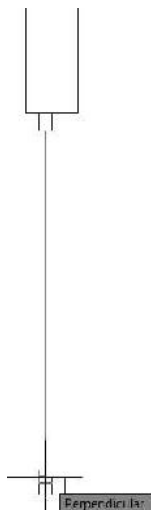

FIGURE 4.70: Using the Perpendicular osnap to set the endpoint of the line
- When you get near the horizontal line that represents both the inside edge of one frame section and the back edge of the frame section next to it, the colored Perpendicular osnap marker will appear on that line, as shown in Figure 4.70. When it does, select that point.